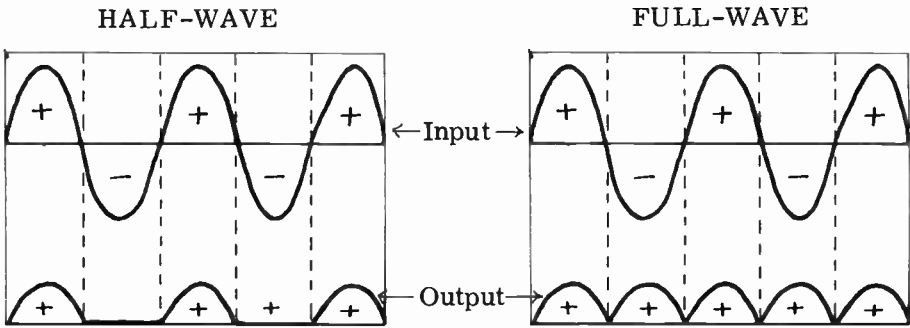

FIG. 7-6. INPUT VERSUS OUTPUT WAVEFORMS.
**RIPPLE FREQUENCY.** Fig. 7-6 illustrates the input waveforms of the half-wave and full-wave rectifiers and their respective output waveforms. If the input waveform is 60 Hertz AC, we can see that the half-wave output current will consist of 60 DC pulses per second, while the full-wave output current will be made up of 120 DC pulses per second. That is, there will be twice as many pulses in the output of the full-wave rectifier than in the output of the half-wave rectifier. The number of pulses in the output waveform is called the RIPPLE FREQUENCY. Thus, the output ripple frequency of a single phase half-wave rectifier is 60 Hz, while that of a single phase full-wave rectifier is 120 Hz. Since a three-phase system produces three times as many pulses per Hertz as a single-phase system produces, the output ripple frequency of a rectifier using three-phase current as its source would be 180 Hz for a half-wave system and 360 Hz for a full-wave system.